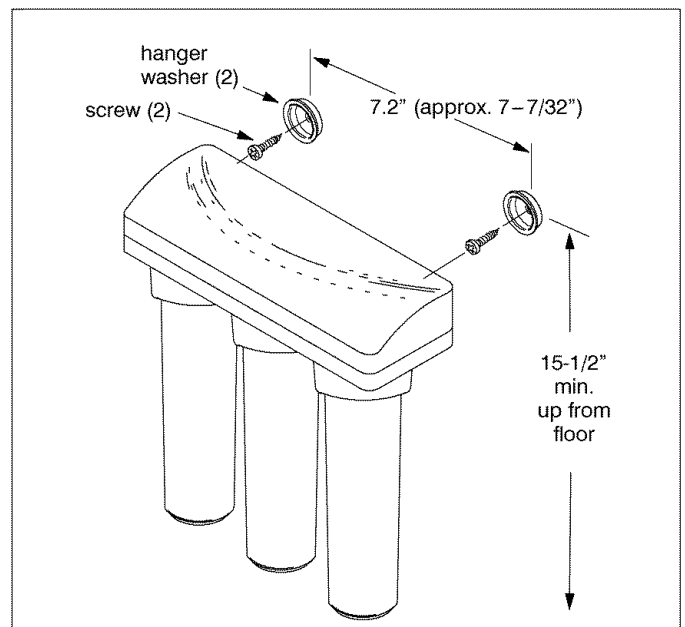

Figure 9
1. Refer to Figure 9 for wall mounting. Hold the assembly up to the wall surface and mark locations for the hanger washers. Distance needed is 7.2" (approx. 7-7/32") apart.